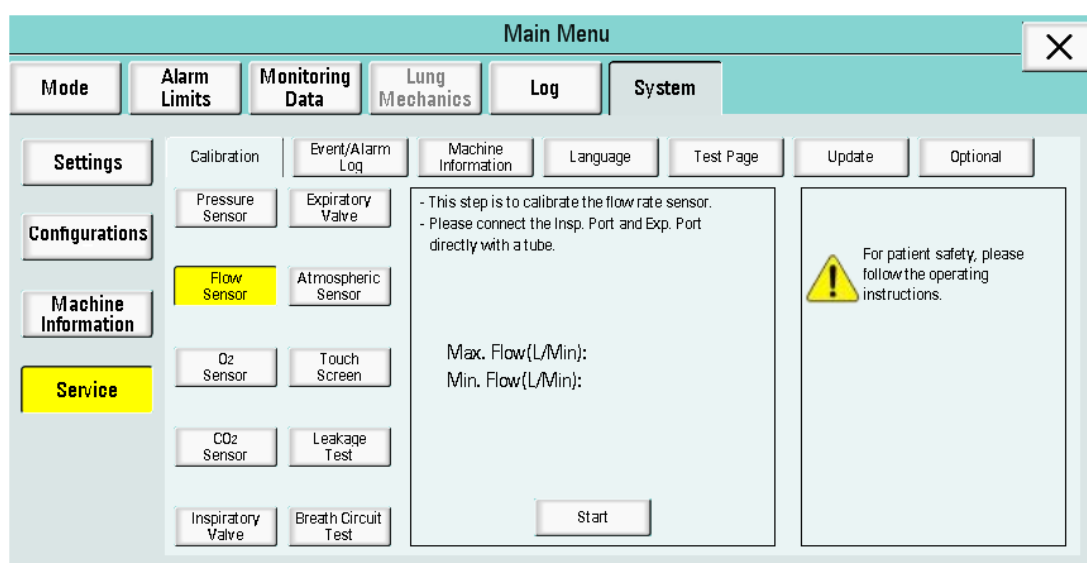

Figure 6-61
(2) Flow Sensor Calibration: Click “Flow Sensor” to enter the interface. A message is displayed: “This step is to calibrate the flow sensor. Please connect the insp. Port and Exp. Port directly with a tube” as shown in Figure 6-61.